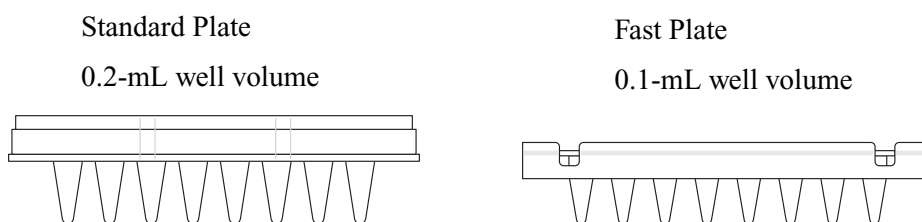

Figure 1 Standard and Fast 96-well reaction plate well volumes and depths
- The wells of the standard plate have a volume of 0.2 mL; the wells of the Fast plate have a volume of 0.1 mL. The Fast plate also has shallower wells than those of the standard plate (Figure 1). The well-depth differences require that you use the plate adapter designed for the plate type that you use on the Applied Biosystems CE instrument. Otherwise, the capillaries (310) or capillary arrays (3100/3130/3730) are damaged.